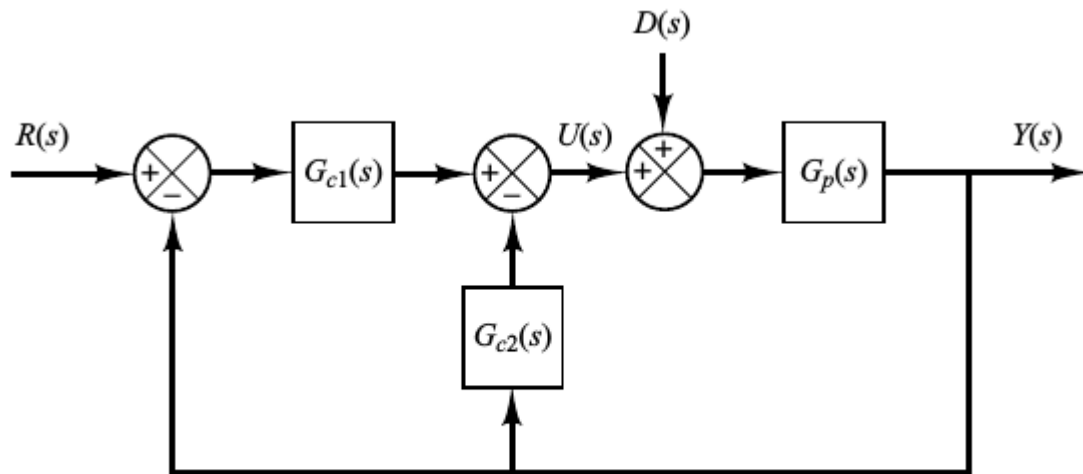

Figure 8-81
6) B-8-14. Consider the system shown in Figure 8-81. The plant $G_p(s)$ is given by